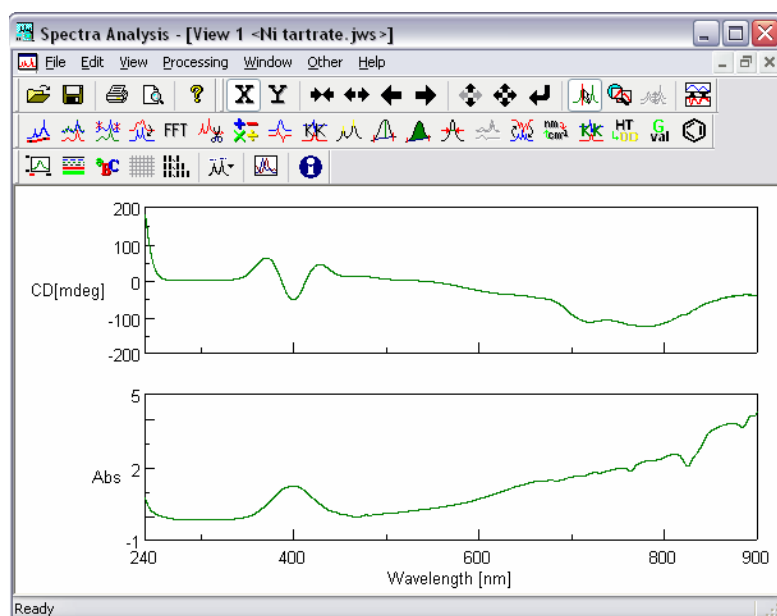

Figure 7.10 Spectrum View (after calculation)
- (2) Click on [Processing] - [CD-Options] - [HT->OD...]. The HT spectrum displayed in channel #2 is converted into an Abs spectrum (see Fig. 7.10).